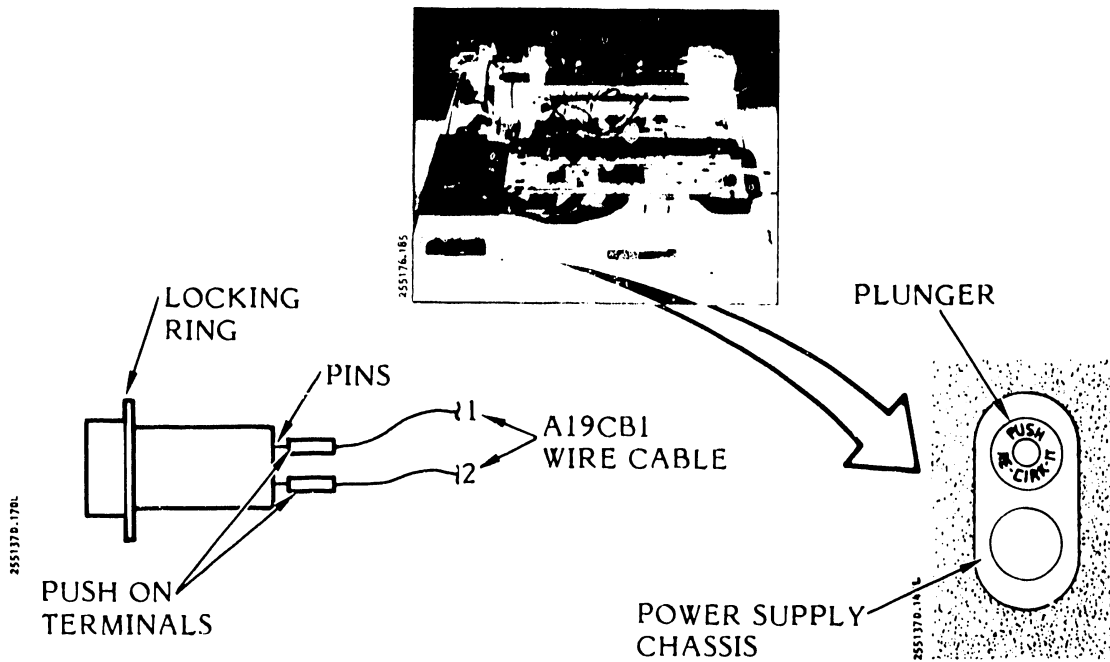

Figure 3-91. Plunger Type Circuit Breaker (115 VAC 60 Hz, Standard Power Supply) Removal/Installation
3.7.21 Plunger Type Circuit Breaker (115 VAC 60 Hz, Standard, Power Supply) Removal/Installation (Figure 3-91)
- c. Remove the two push-on terminals from the circuit breaker (see figure 3-91).
- a. Insert the circuit breaker through the printer base and into the power supply chassis as shown in figure 3-91.
- c. Push the wire cable leads (A19CB1-1 and -2) over the circuit breaker pins (see figure 3-91).